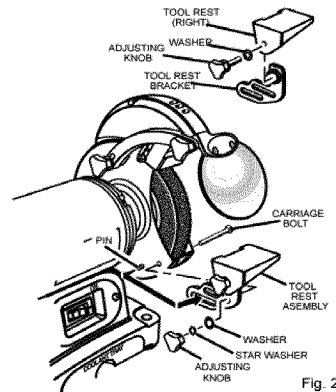

Fig. 2
### Tool rest assembly (Fig 2)
3. Remove the adjusting knob, star washer, and washer from the carriage bolt on the lower portion of the wheel. (Fig. 2)